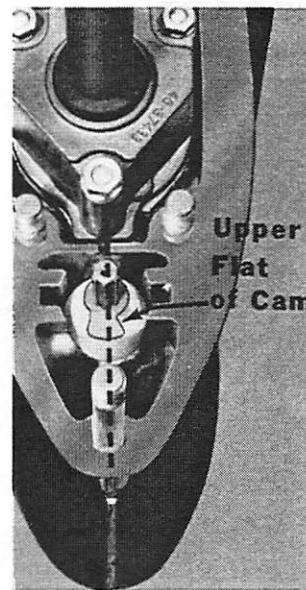
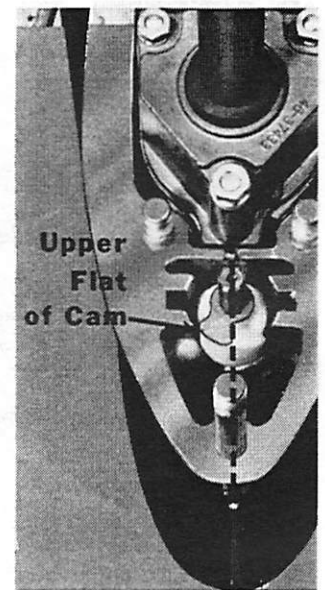

Figure 2. Cam in Reverse
Figure 3. Cam in Neutral
2. Install cam over gear housing shift shaft while unit is in reverse. Note that cam must be positioned so that upper flat of cam is facing front of gear housing when in reverse shift position. (Figure 2) To check cam for correct positioning on shiftshaft, shift lower unit into neutral. Cam then should be positioned as shown in Figure 3.